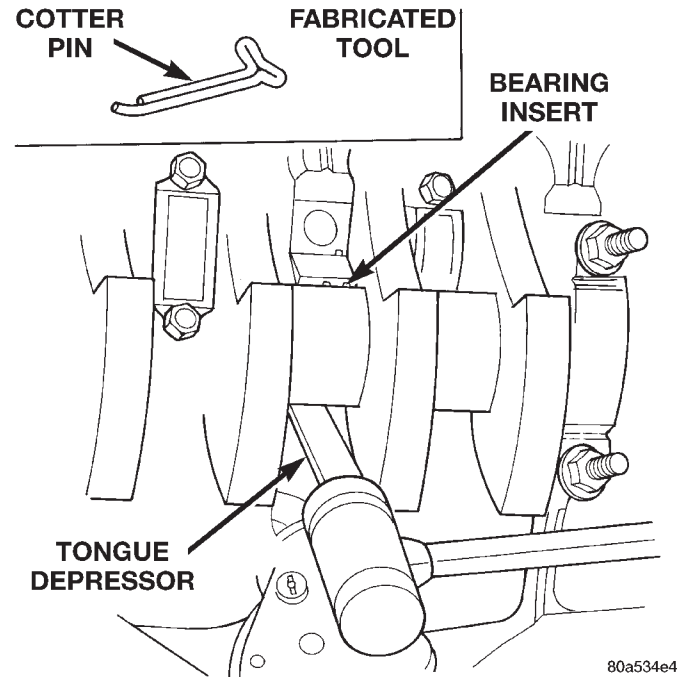

Fig. 55 Removing Upper Inserts
(7) Remove the lower insert from the bearing cap.
(8) Remove the upper insert by **LOOSENING (DO NOT REMOVE)** all of the other bearing caps. Now insert a small cotter pin tool in the crankshaft journal oil hole. Bend the cotter pin as illustrated to fabricate the tool (Fig. 55). With the cotter pin tool in place, rotate the crankshaft so that the upper bearing insert will rotate in the direction of its locking tab. Because there is no hole in the No.3 main journal, use a tongue depressor or similar soft-faced tool to remove the bearing insert (Fig. 55). After moving the insert approximately 25 mm (1 inch), it can be removed by applying pressure under the tab.
(9) Using the same procedure described above, remove the remaining bearing inserts one at a time for inspection.